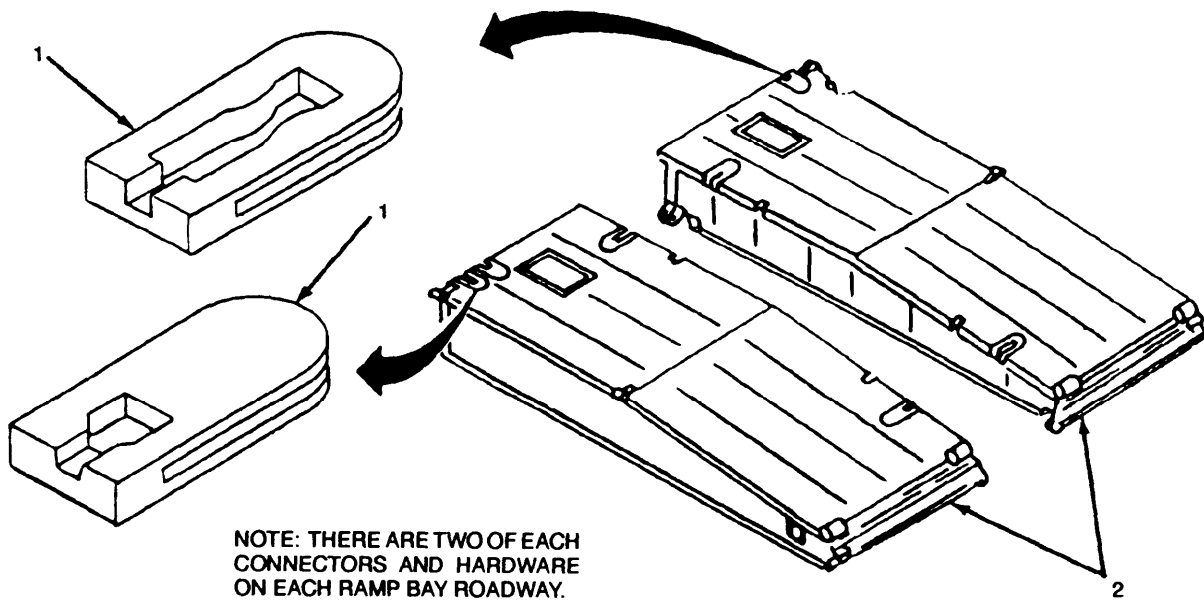

Figure 2-6. Ramp Bay Receptacles, Replace.
a. Replace. (figure 2-6)
- (1) Cut out receptacles (1) from roadway ponton (2) in accordance with TM 9-237.
- (2) Install receptacles (1) by welding in accordance with TM 9-237.